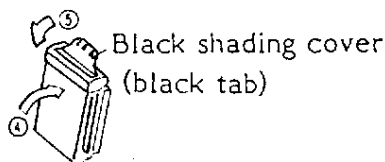

Fig. 9-2
- b. Close the Polaroid back cover, while exercising care not to catch the white tab between the film pack and the Polaroid camera (Fig. 9-2).